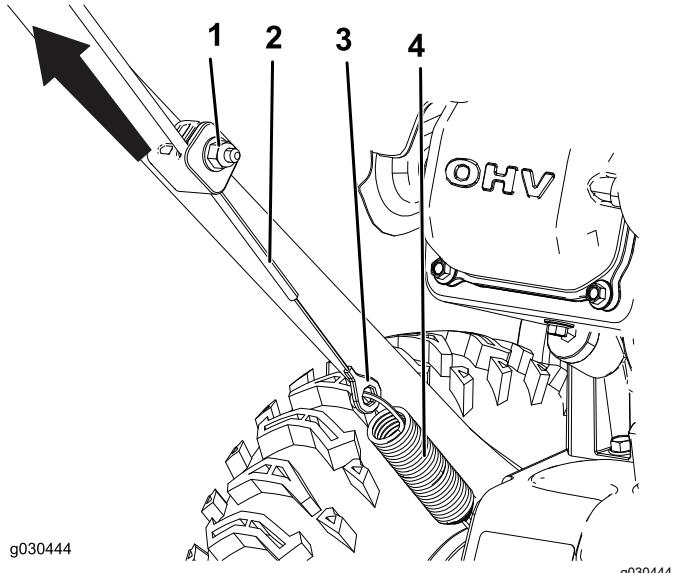

Figure 26
1. Loosen the nut on the lower cable clamp, but do not remove it (Figure 26).
2. Pull the cable up to remove some slack (Figure 26).
3. Hold the cable in place and tighten the nut (Figure 26).